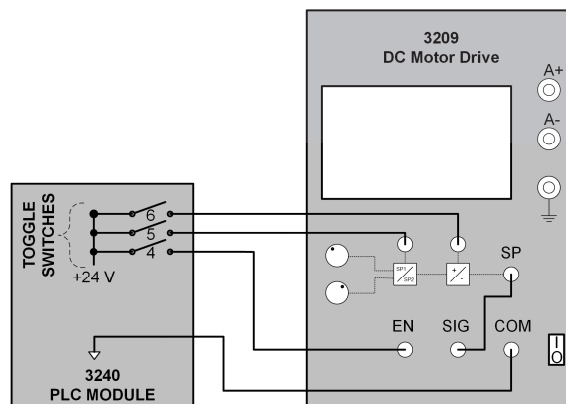

Figure 5. DC Motor Drive test circuit.
1. Connect the DC Motor Drive to the PLC module, as shown in Figure 5. All toggle switches must be turned off (down position).